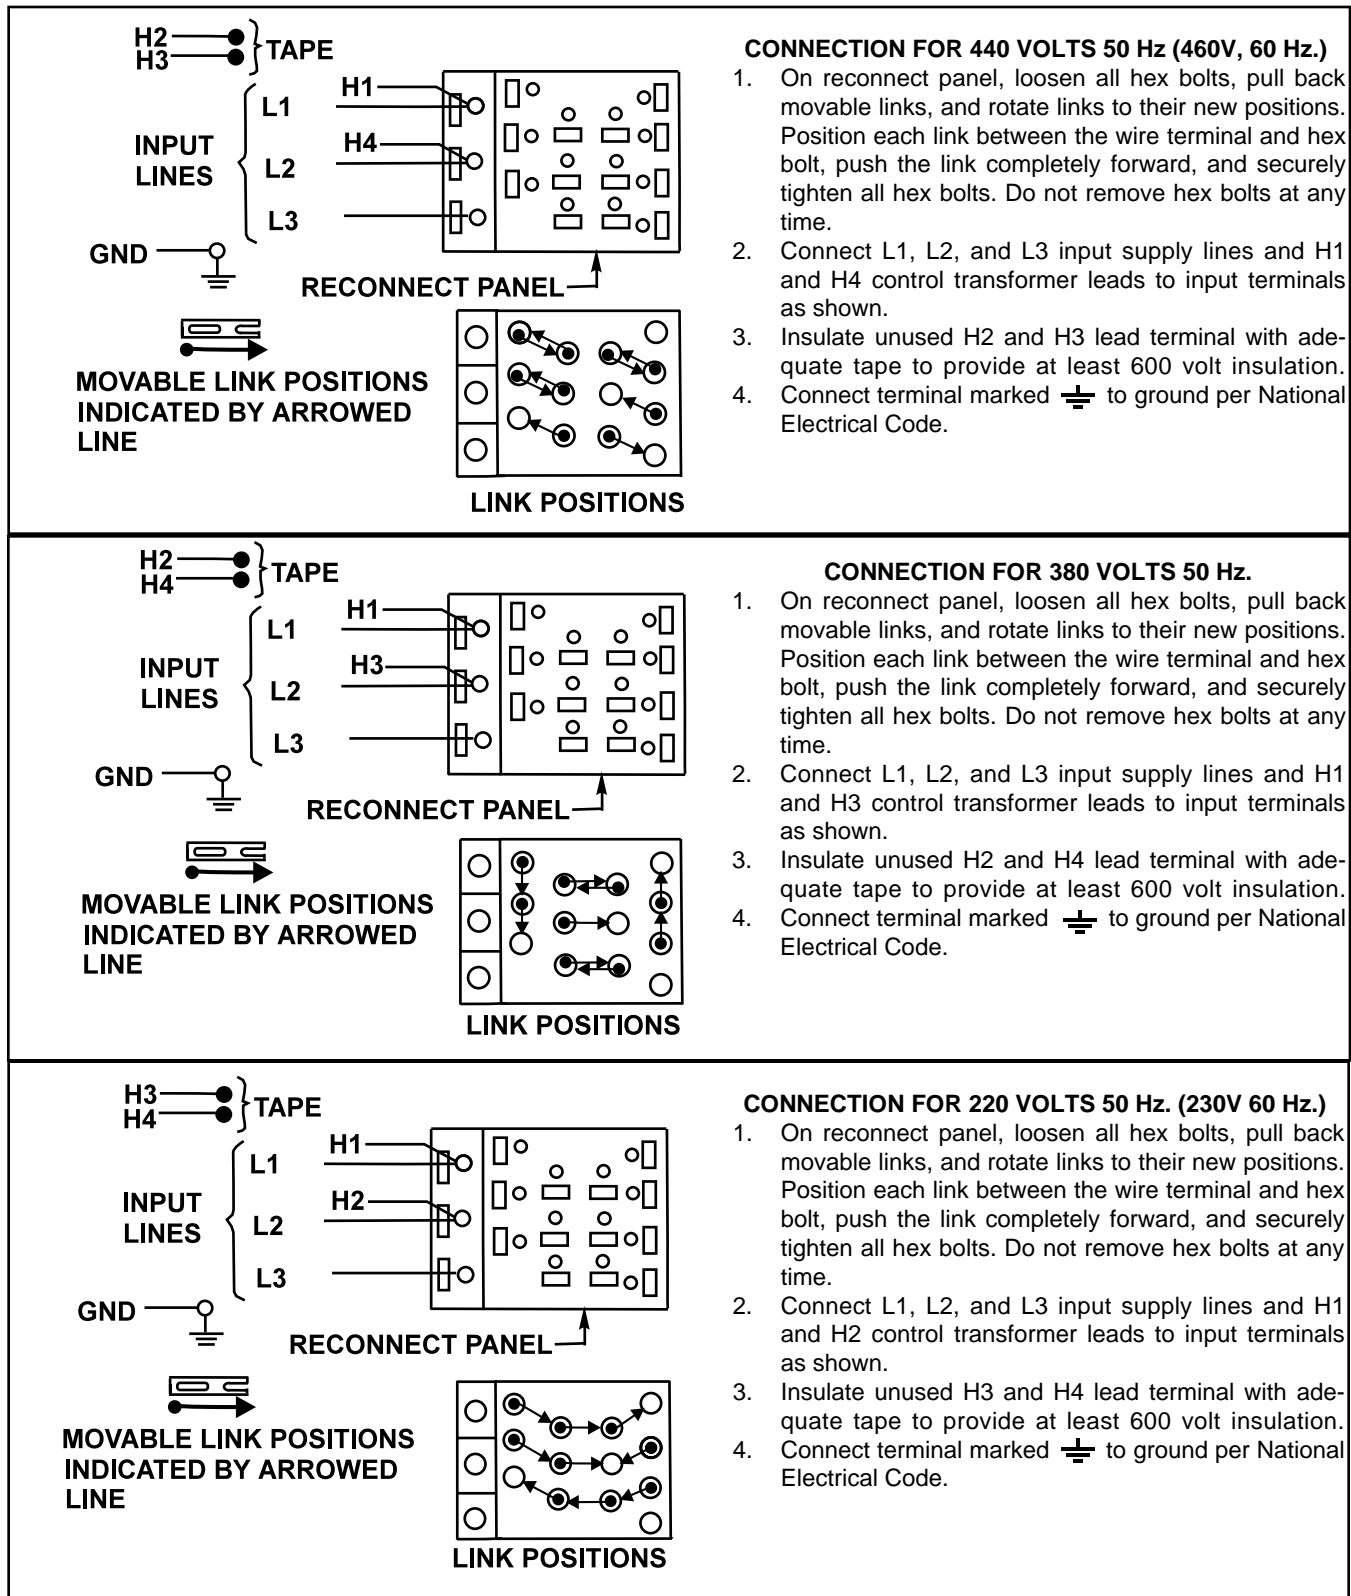

FIGURE A.3d - Input Supply Connection Diagram
4. For 220/380/440 Triple Voltage Machines, refer to Figure A.3d